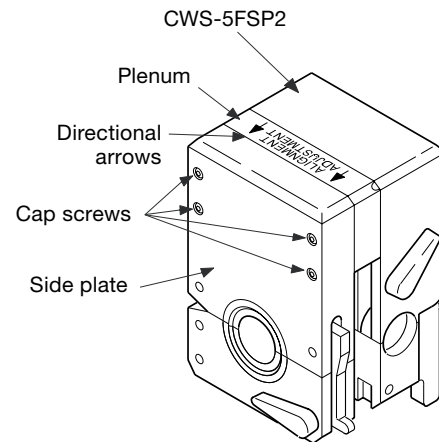

Figure 19 *Loosening the Side Plate*
1. Turn the fixture block over and locate the directional arrows on the plenum. The arrows point to the appropriate side plate. See Figure 19.
2. Using the provided 3/32 in. hex wrench, unscrew the four cap screws in the appropriate side plate just enough to loosen it from the plenum. See Figure 19 to locate the appropriate side plate.